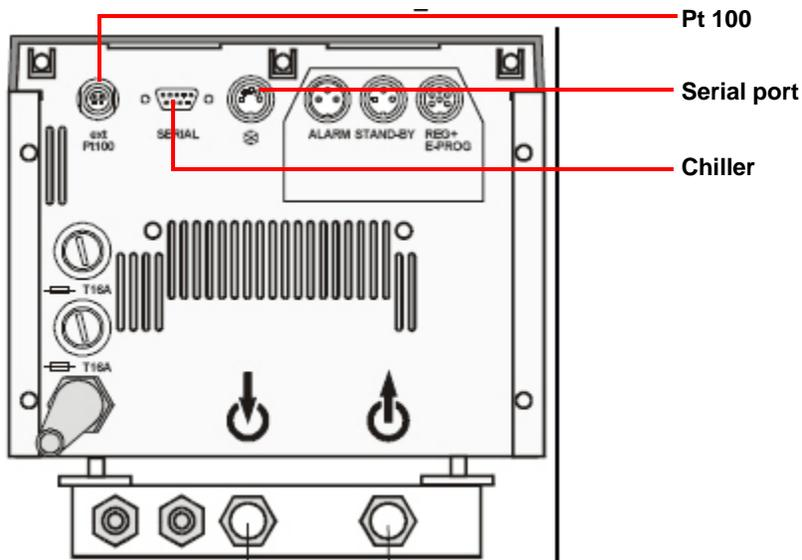

Figure 4 Connections for Julabo CCFC with HE style head.
- The upper drain connector on the Submersion Cell to the upper drain port on the solenoid box using the 6-mm tubing (blue) provided. Insert the in-line filter into the line, as shown in Figure 4.